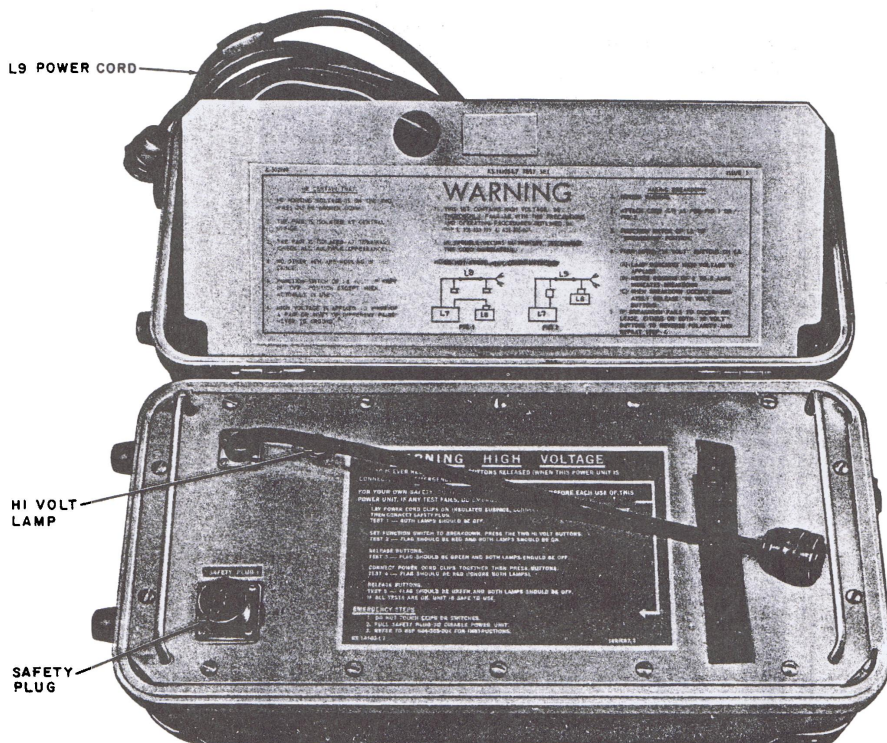

Fig. 1—KS-14103 L7 Power Unit
3.01 The KS-14103 L6 test set consists of the L7 power unit and L8 control unit. The L7 power unit (Fig. 1) is 19 inches long, 11-1/4 inches wide, 8-1/2 inches high and weighs 38 pounds complete with batteries and removable lid which also serves as the storage compartment for the L9 power cord. Fourteen KS-14196 (45 volt)